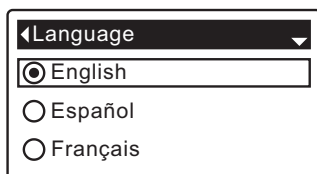

FIG. 47
5. Press the SELECT (O) button to display the Language menu (See Figure 47).